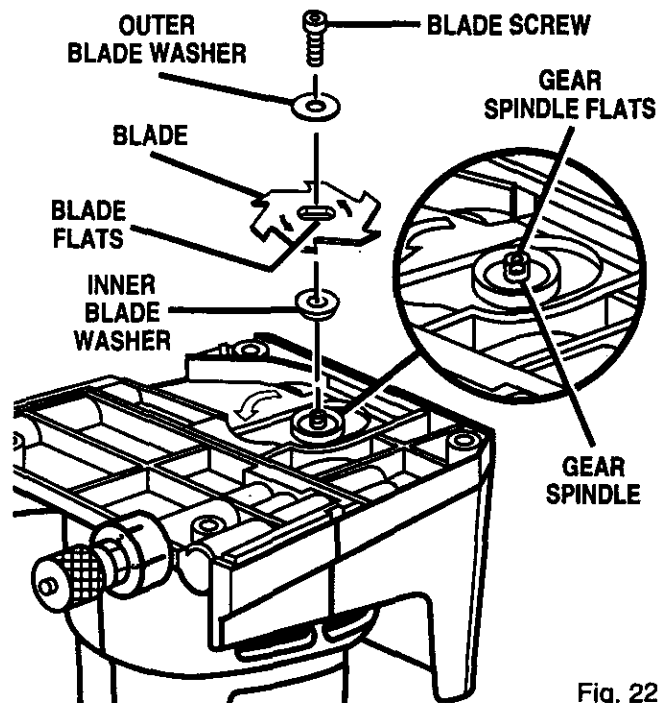

Fig. 22
Note: Turn blade screw counterclockwise to remove. See Figure 22.
- Place inner blade washer on gear spindle. See Figure 22.